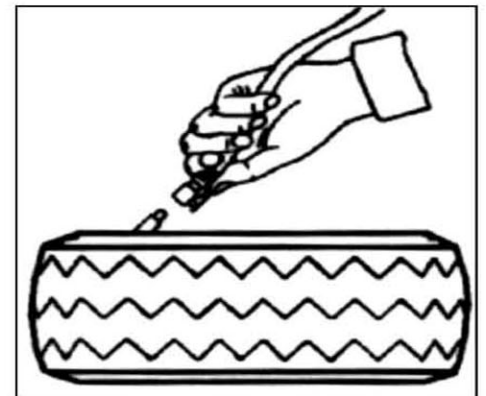

Fig28
2. Connect the inflation hose with the tire air core. See FIG28.